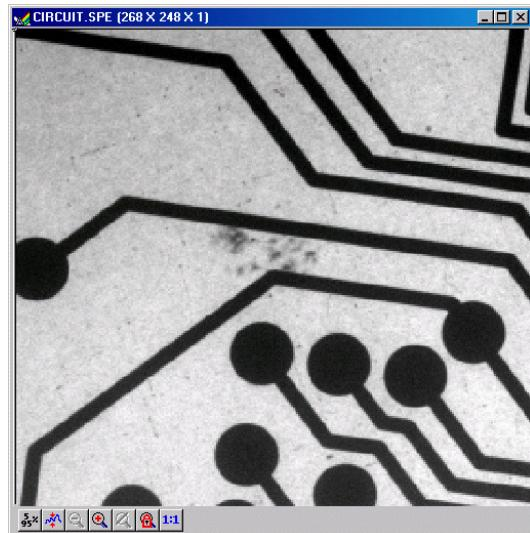

Figure 96. Circuit.spe Image
- From the data directory select the image file called CIRCUIT.SPE. Click on the **OK** button. A window of the appropriate dimensions should appear immediately. The image display (Figure 96) may take a few seconds, depending on the speed of the computer.
- Click on (5%-95%) (located beneath the displayed image as shown in Figure 96). You will observe a moderate brightening of the image as it autoscales on the central 90% of the image histogram. The brightest (pixels with high dark charge) and the darkest pixels (pixels with low response) are ignored.